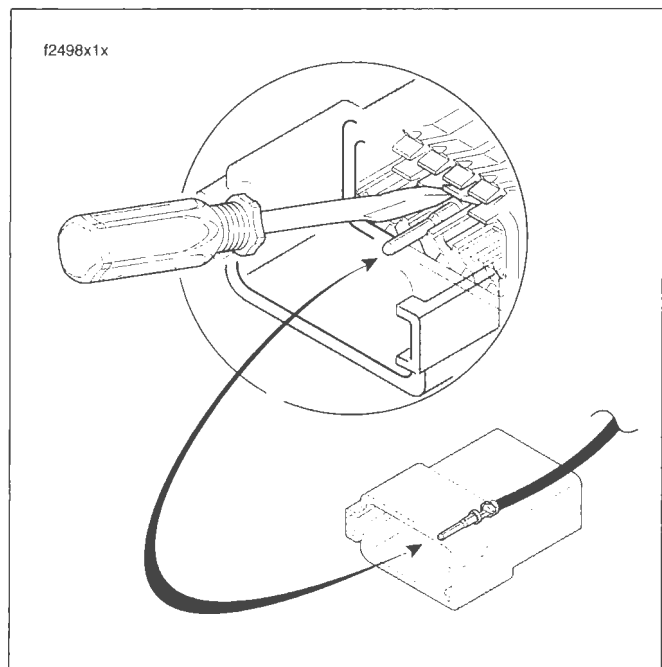

Figure B-17. Depress Terminal Latch & Back Out Pin
2. Use a pick or small screwdriver to depress terminal latches inside socket housing and back out sockets through holes in rear wire seal. See Figure B-17.